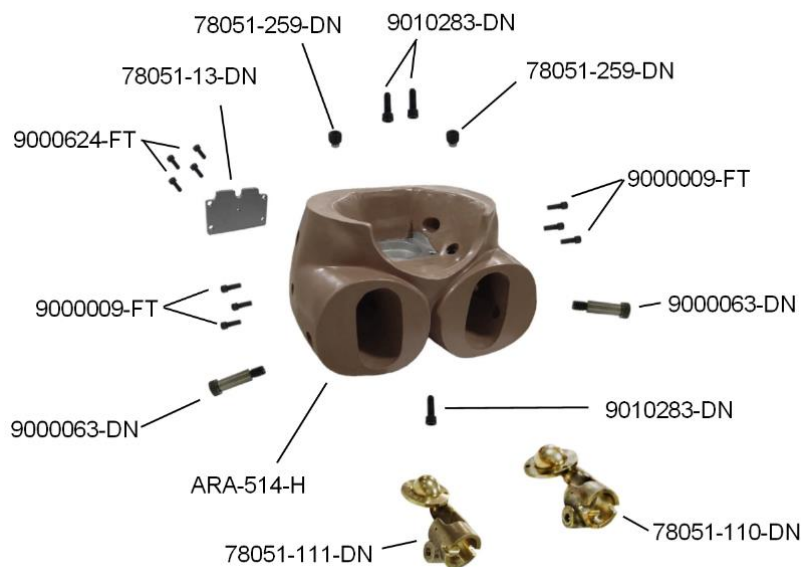

Figure 6: Pelvis Assembly Components
- Remove the BioRID pelvis assembly ARA-500 from the dummy. All components shown in Figure 6 are to be installed for this test.